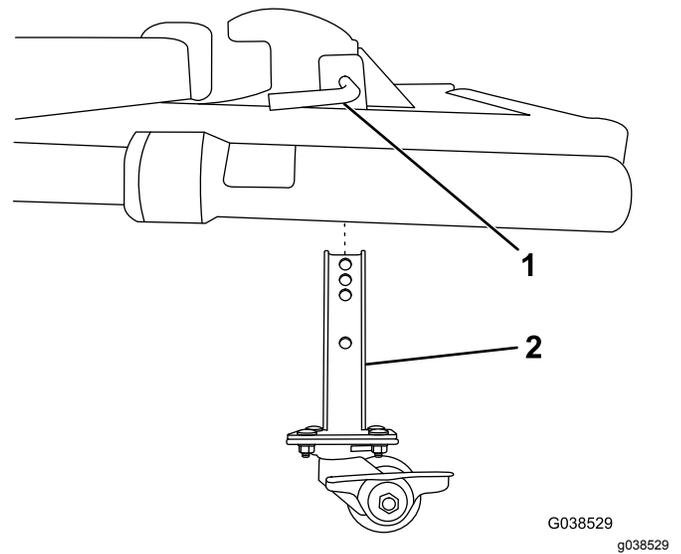

Figure 3
- Remove the existing kickstand and replace it with the kickstand caster shoe (Figure 3).
6. Fully raise the kickstand caster shoe and lock it into place with the existing kickstand spring pin (Figure 3).